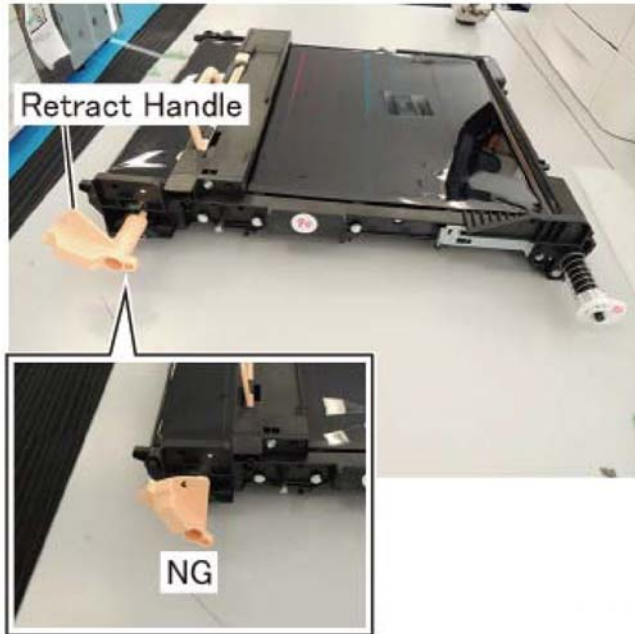

Figure 3 Correct retract handle position
2. When installing the IBT belt unit, make sure the retract handle is at the position shown in Figure 3.